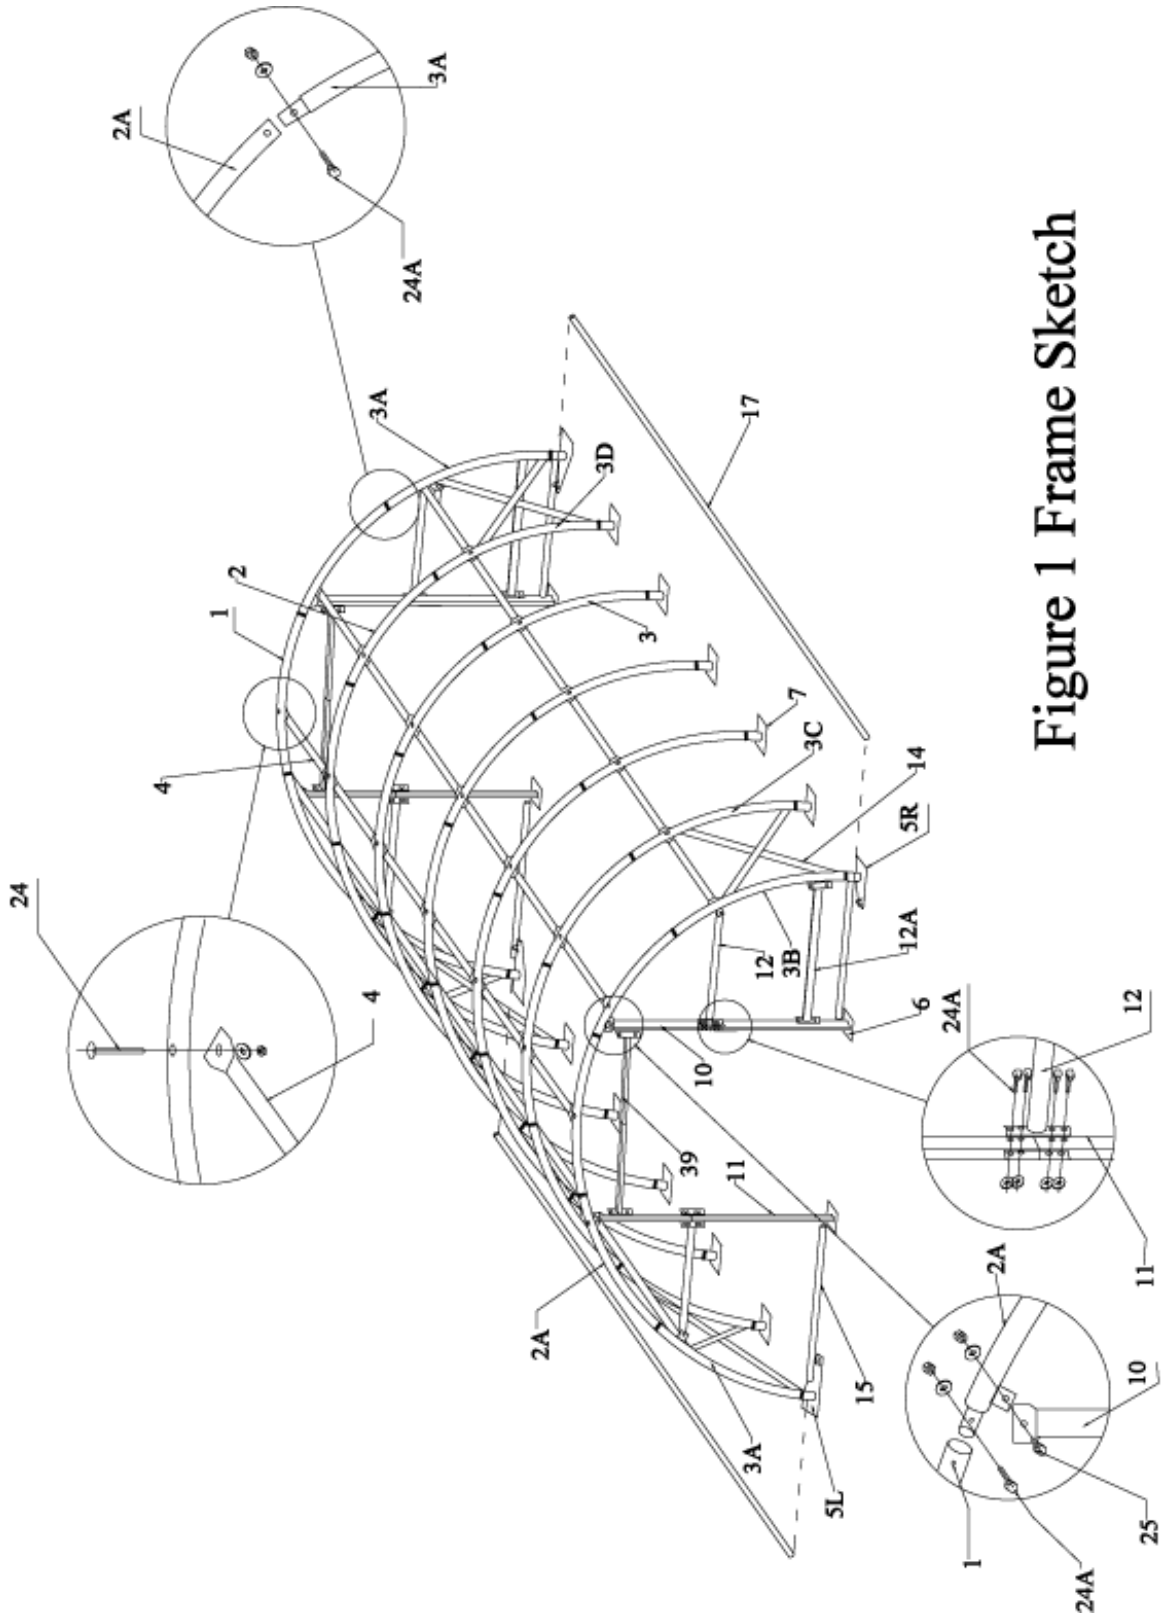

Figure 1 Frame Sketch
Refer to Figure 1 Frame Assembly to review Interior Arch #2 and #6 requirements (directly inside End arches). These arches must have the Sidewall Tubes (3C & 3D) that accommodate the Wind Brace Supports. The first Interior Arch from the End Arch must use Sidewall Tube (3C), with clips for wind brace supports facing towards the end arch. Welded Wind Brace Tabs should be on the bottom of the sidewall tube.
Refer to Figure 1 Frame Assembly to review Interior Arch #2 and #6 requirements (directly inside End arches). These arches must have the Sidewall Tubes (3C & 3D) that accommodate the Wind Brace Supports. The first Interior Arch from the End Arch must use Sidewall Tube (3C), with clips for wind brace supports. Note that Sidewall Base Plates (7) and Base Plates End Standing Legs (6) are different and not interchangeable. Sidewall Base Plates are used only along Right Corner Base Flange (5R) for the End corners of the building. Secure the base flanges with either or both the Auger style anchor (20) and the Earth style anchor (21). Measurements shown in Figure 2 are to the center of the upright sockets on each Base Flange.